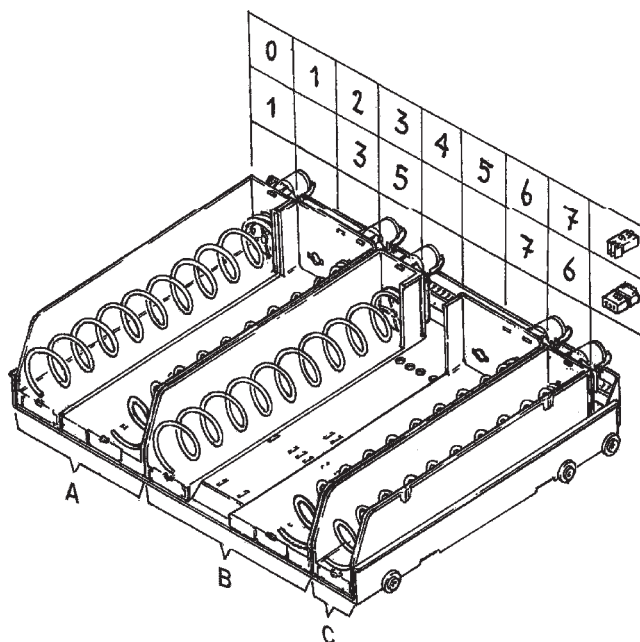

Fig. 20
- connect the three-pole connectors to the motors, keeping in mind that connector pairs are fixed: i.e. the connectors marked with number 1 and 3 can be connected to the left-hand holder and the connectors marked with number 5 and 7 can be connected to the right-hand holder (see example in Fig. 20);
If a single holder is to be connected, as in the example of Fig. 20, two-pole connector N. 6 must be used: